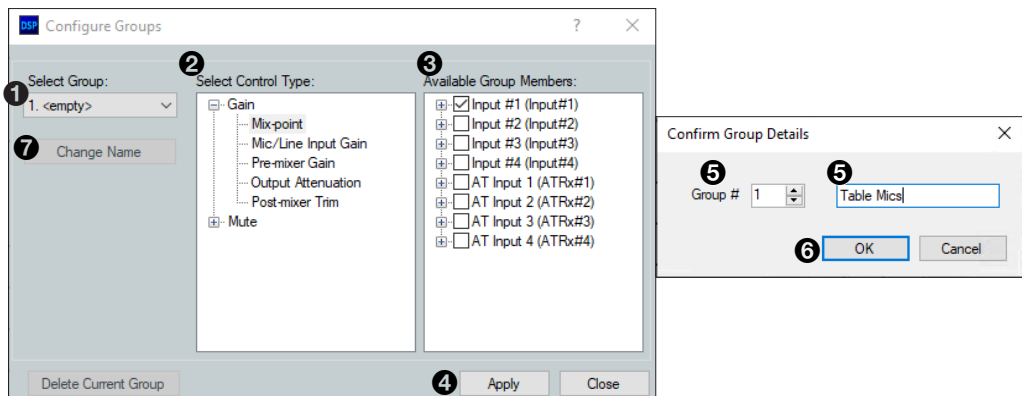

Figure 73. Editing a Group
1. Select **Tools > Configure Groups** to open the Configure Groups dialog box (see figure 73).
2. From the **Select Group** drop-down list (❶), select an existing group to edit.
3. From the **Select Control Type** panel (❷), expand a control type.
5. From the **Available Group Members** panel (❸), select or deselect channels to be members of the group.
6. Click **Apply** (❹).
7. From the **Confirm Group Details** dialog box, the group number and group name can be edited (❺).
8. Click **OK** to confirm the group details (❻).